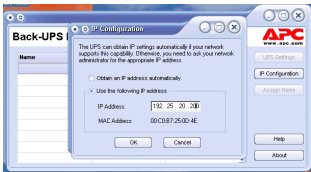
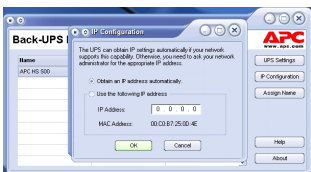

Figure 9. Assign IP Address Screen
Figure 10. Blank Assign IP Address Screen
9. If there are no DHCP services on the network, or if you want to assign an IP Address you can easily remember, you can manually assign an IP Address to the Back-UPS by clicking on the IP Configuration button. The address you assign must follow the format shown in Figure 9 and cannot duplicate an address already assigned. Figure 10 shows the IP Configuration Screen with the IP Address fields set to zero (0).